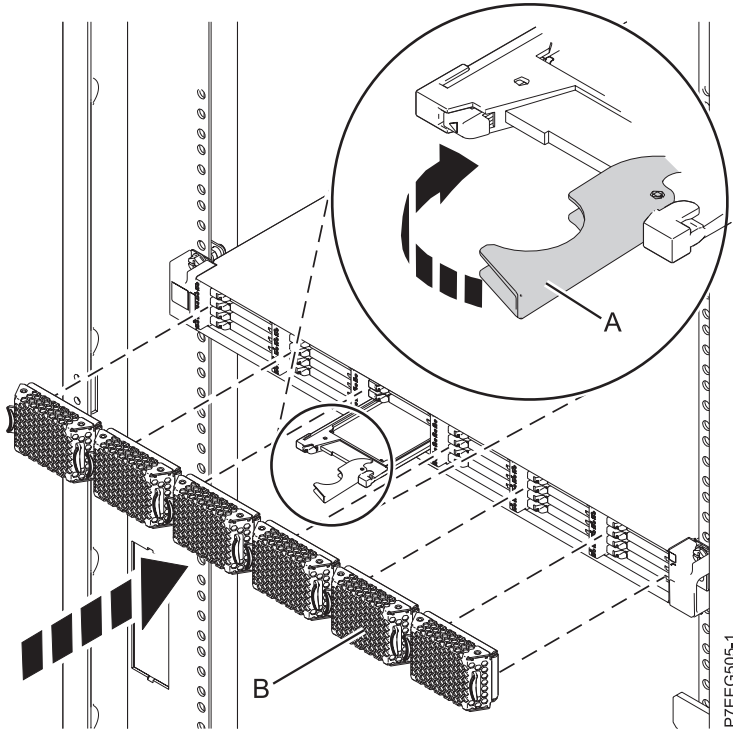

Figure 18. Installing a solid-state drive in the 5888 PCIe storage enclosure
1. With the handle in the unlocked position, align the solid-state drive with the guide rails in the enclosure. See Figure 18 on page 30,
3. Rotate the handle (A) to the locked position, as shown in Figure 18 on page 30.
4. Install the bezel (B).